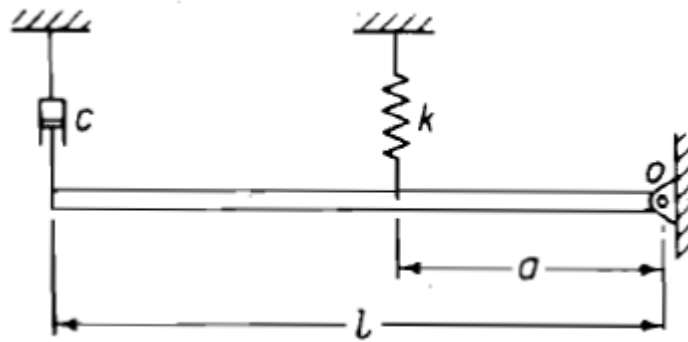

Fig.2.
12. a) Explain distributed mass and lumped mass models in the context of system idealization for dynamic analysis. (4)
- b) A rigid uniform bar of mass  $m$  and length  $l$  is pinned at O and is supported by a spring and viscous damper as shown in Fig.2. Set up the equation of motion for small oscillations of the rod and hence determine its undamped natural frequency (10)